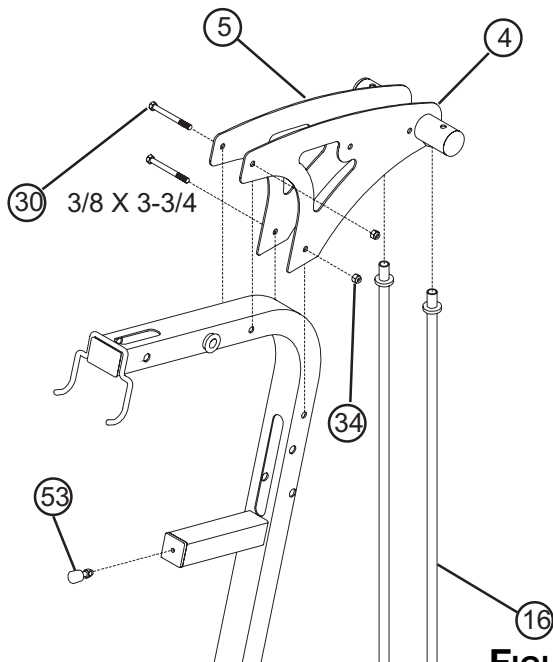
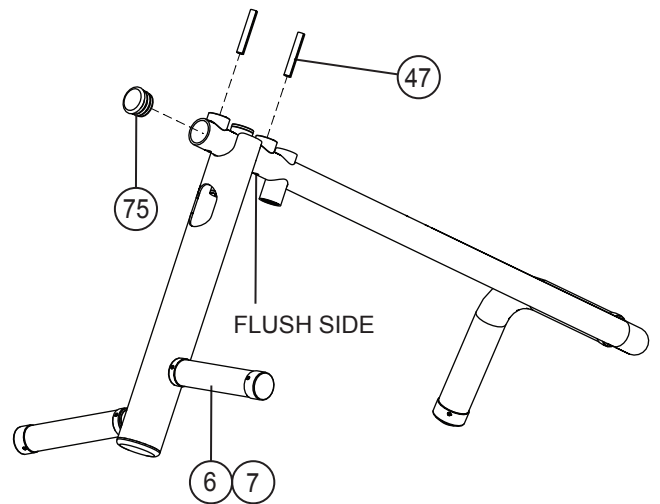

FIGURE 5
FIGURE 6
- Carefully slide the RIGHT and LEFT (5 & 4) BOOM PLATES onto the GUIDE RODS (16) as shown in FIGURE 5 and loosely assembly the BOOM PLATES (5 & 4) to the FRAME (1) using two 3/8 x 3-3/4" BOLTS (30) and two 3/8" LOCK NUTS (34). **CAUTION MUST BE TAKEN NOT TO PULL THE GUIDE RODS (16) OUT OF THE BASE (2).**
- Screw the ADJUSTABLE GLIDE (53) approximately 1/2" into the FRAME (1) and tighten the jam nut securely as shown.
- Use a hammer to tap one 5/16 X 2" ROLL PIN (47) thru the LEFT PRESS HANDLE (7) until it is flush with the other side of the HANDLE as shown in FIGURE 6.
- Place END CAP 1-1/4" into end of PRESS HANDLE, as shown in Figure 6.
- Repeat STEP 6 for the RIGHT PRESS HANDLE (6).